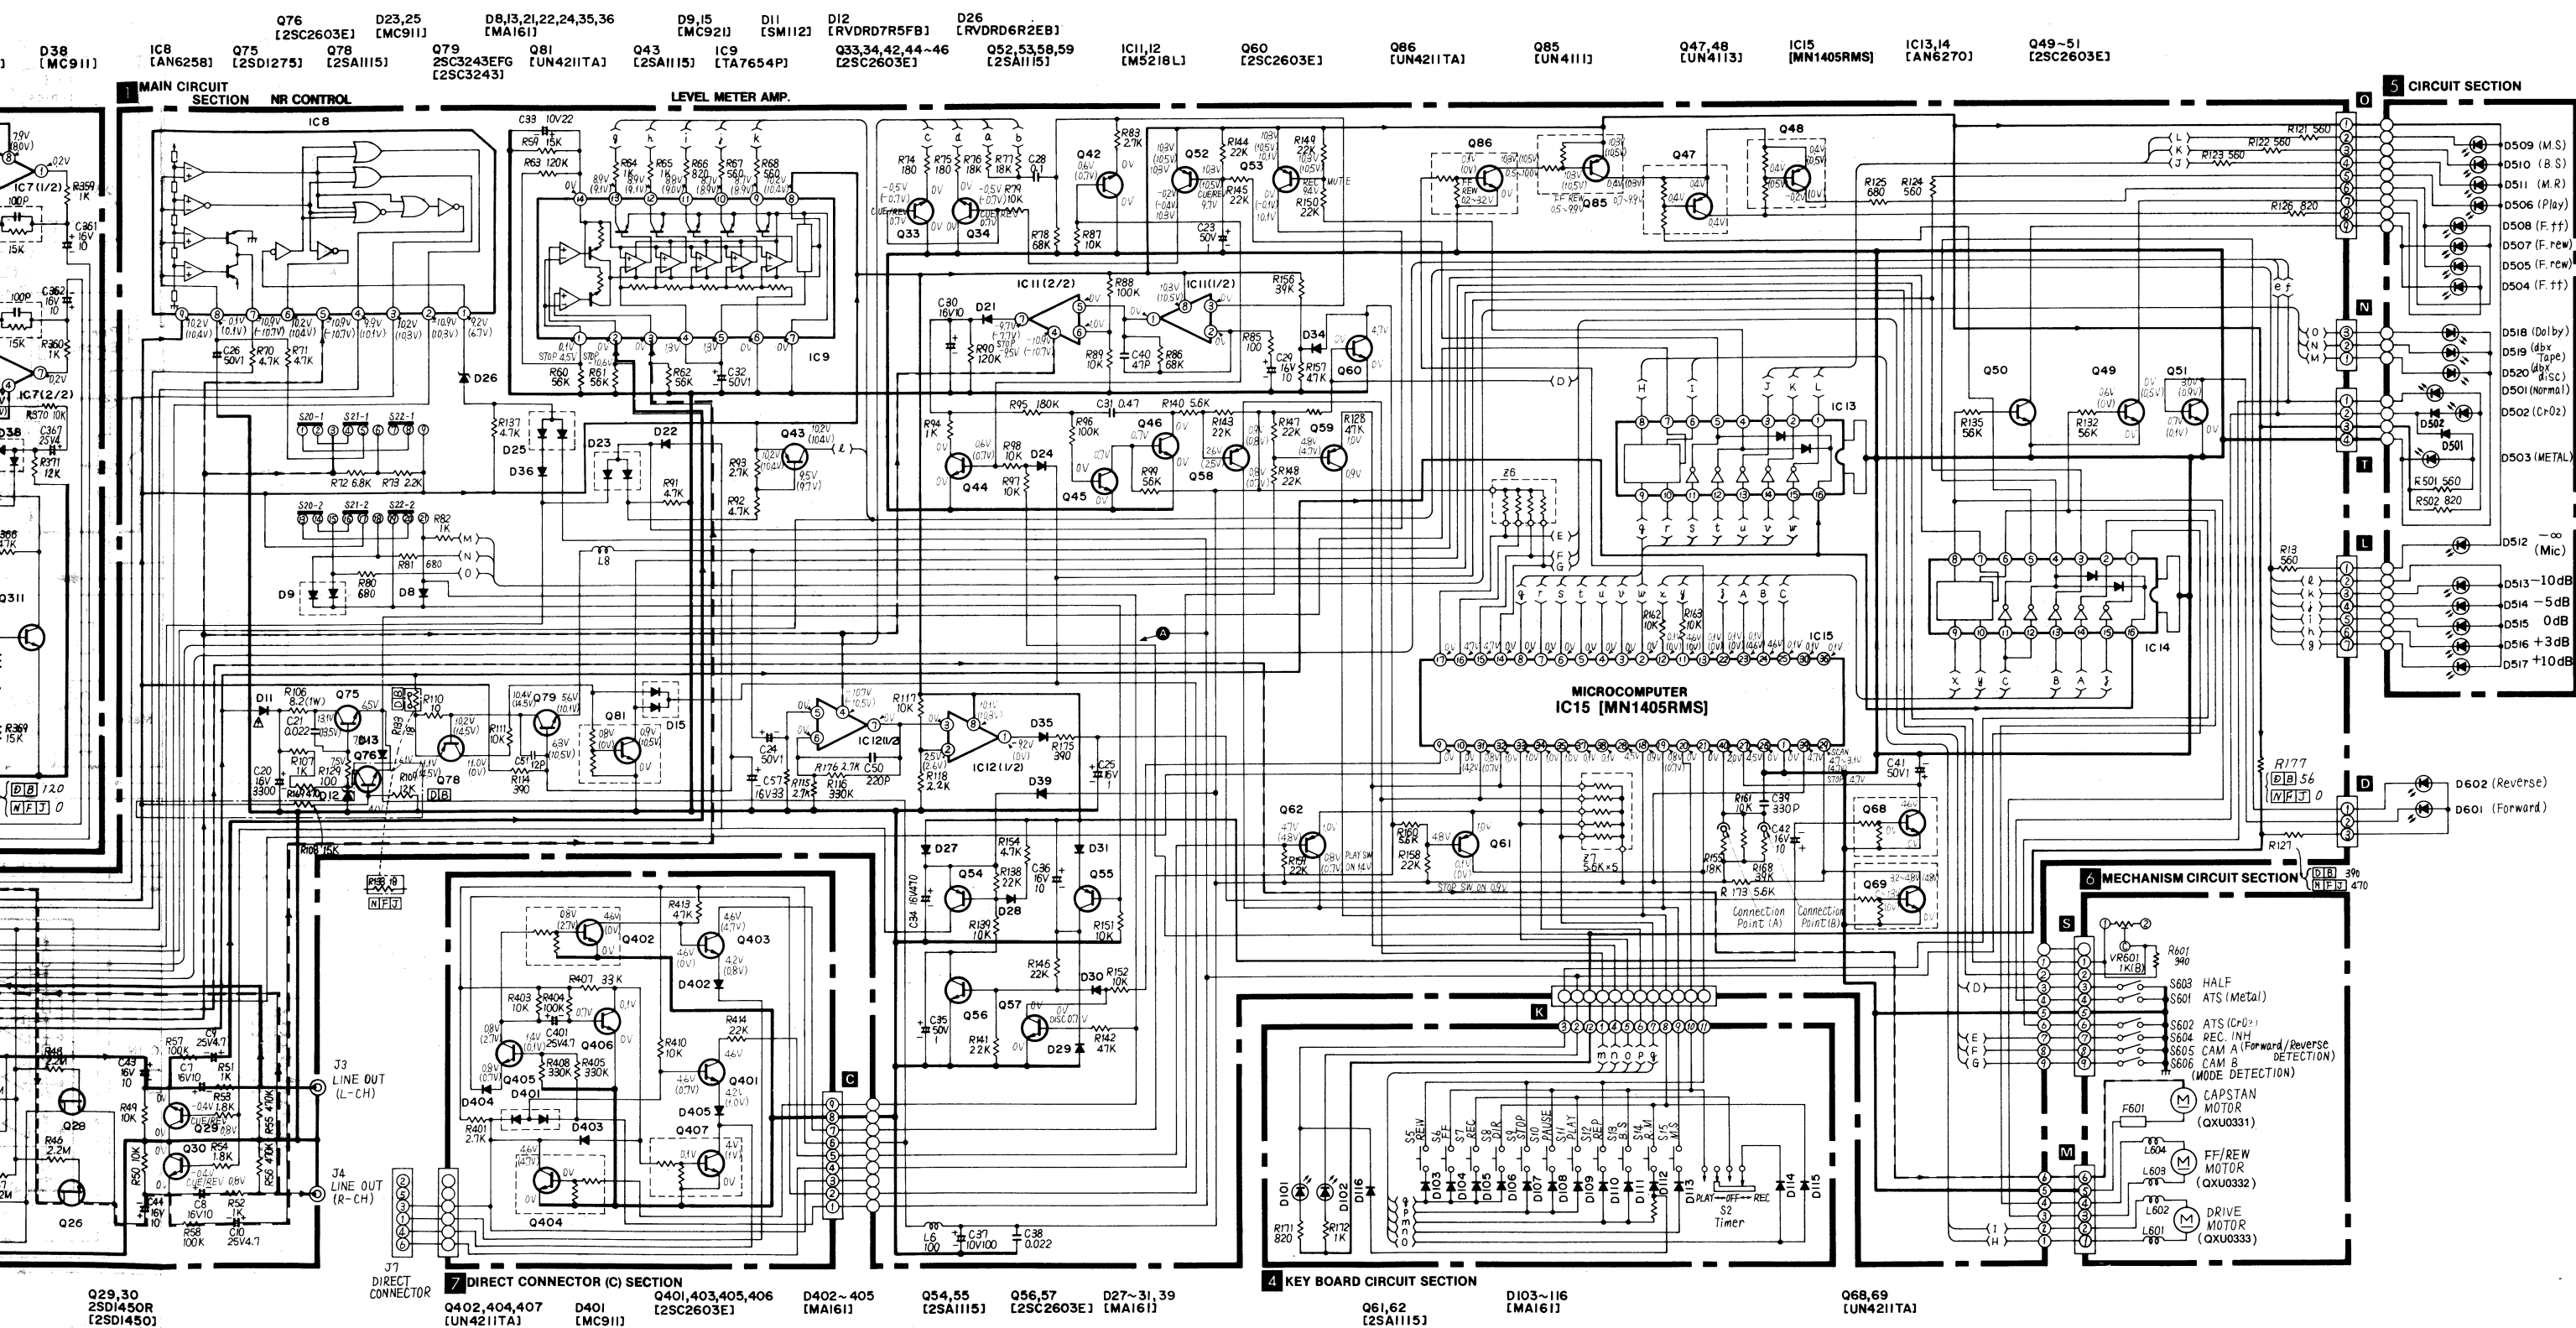

Fig. 1
- When servicing the product which employs an MN1405RMR, remove the C47 and C48 capacitors as shown fig. 1, since only the MN1405RMS is supplied.